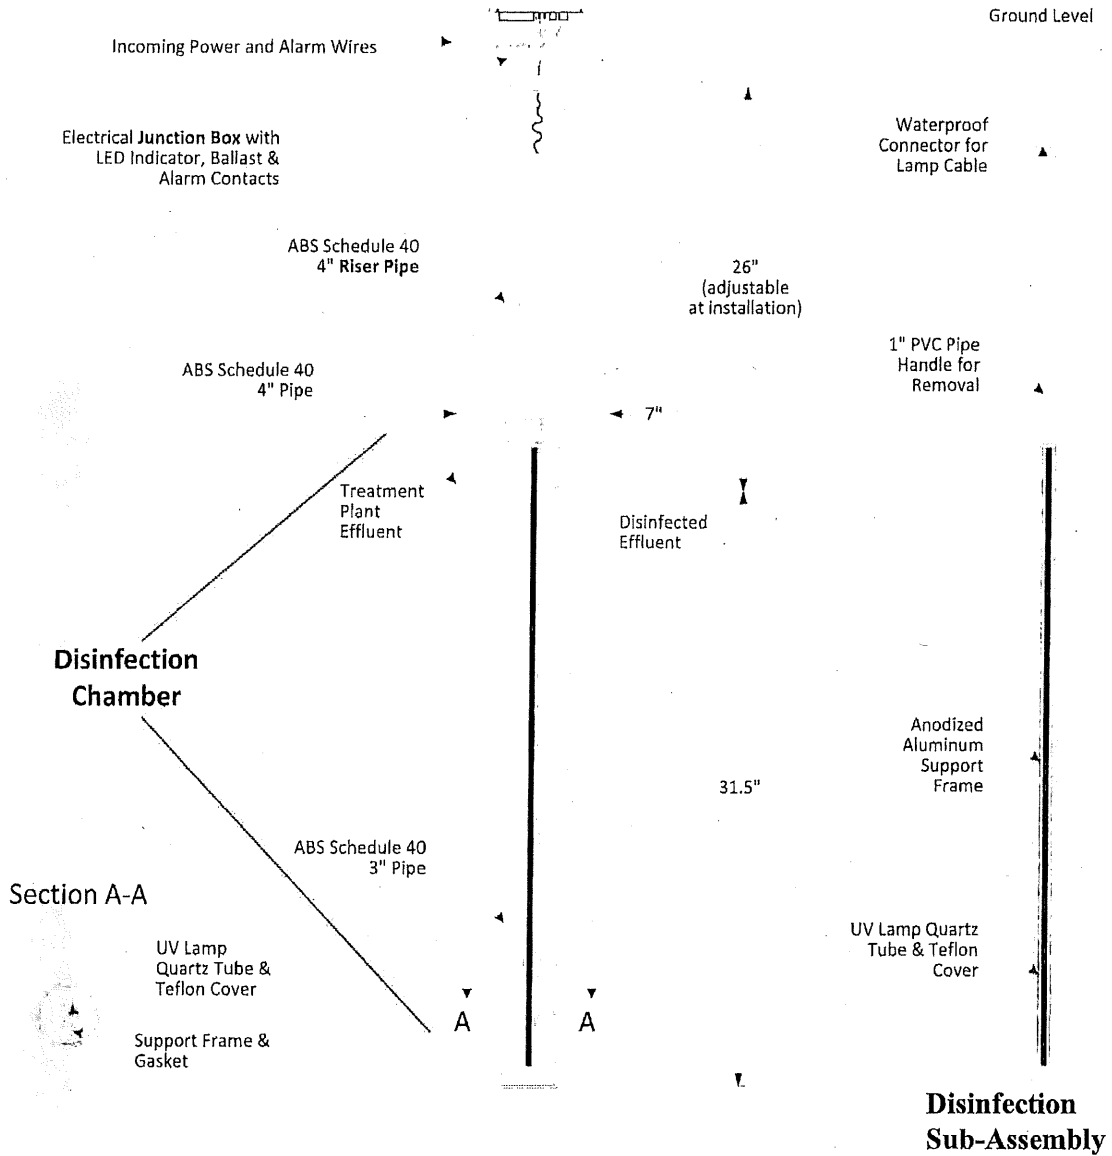

Figure 1
Note: Figure 1 (page 3) indicates that the electrical junction box should be placed at ground level. If this should pose a problem with lawn mowers, etc., then the junction box could be placed below grade in an irrigation valve box. Another possibility is to use a hollow artificial rock to cover the top of the junction box.
- a. Use the 4-inch ABS inlet pipe connection to the pretreatment unit as a reference point. See Figure 1 (page 3).